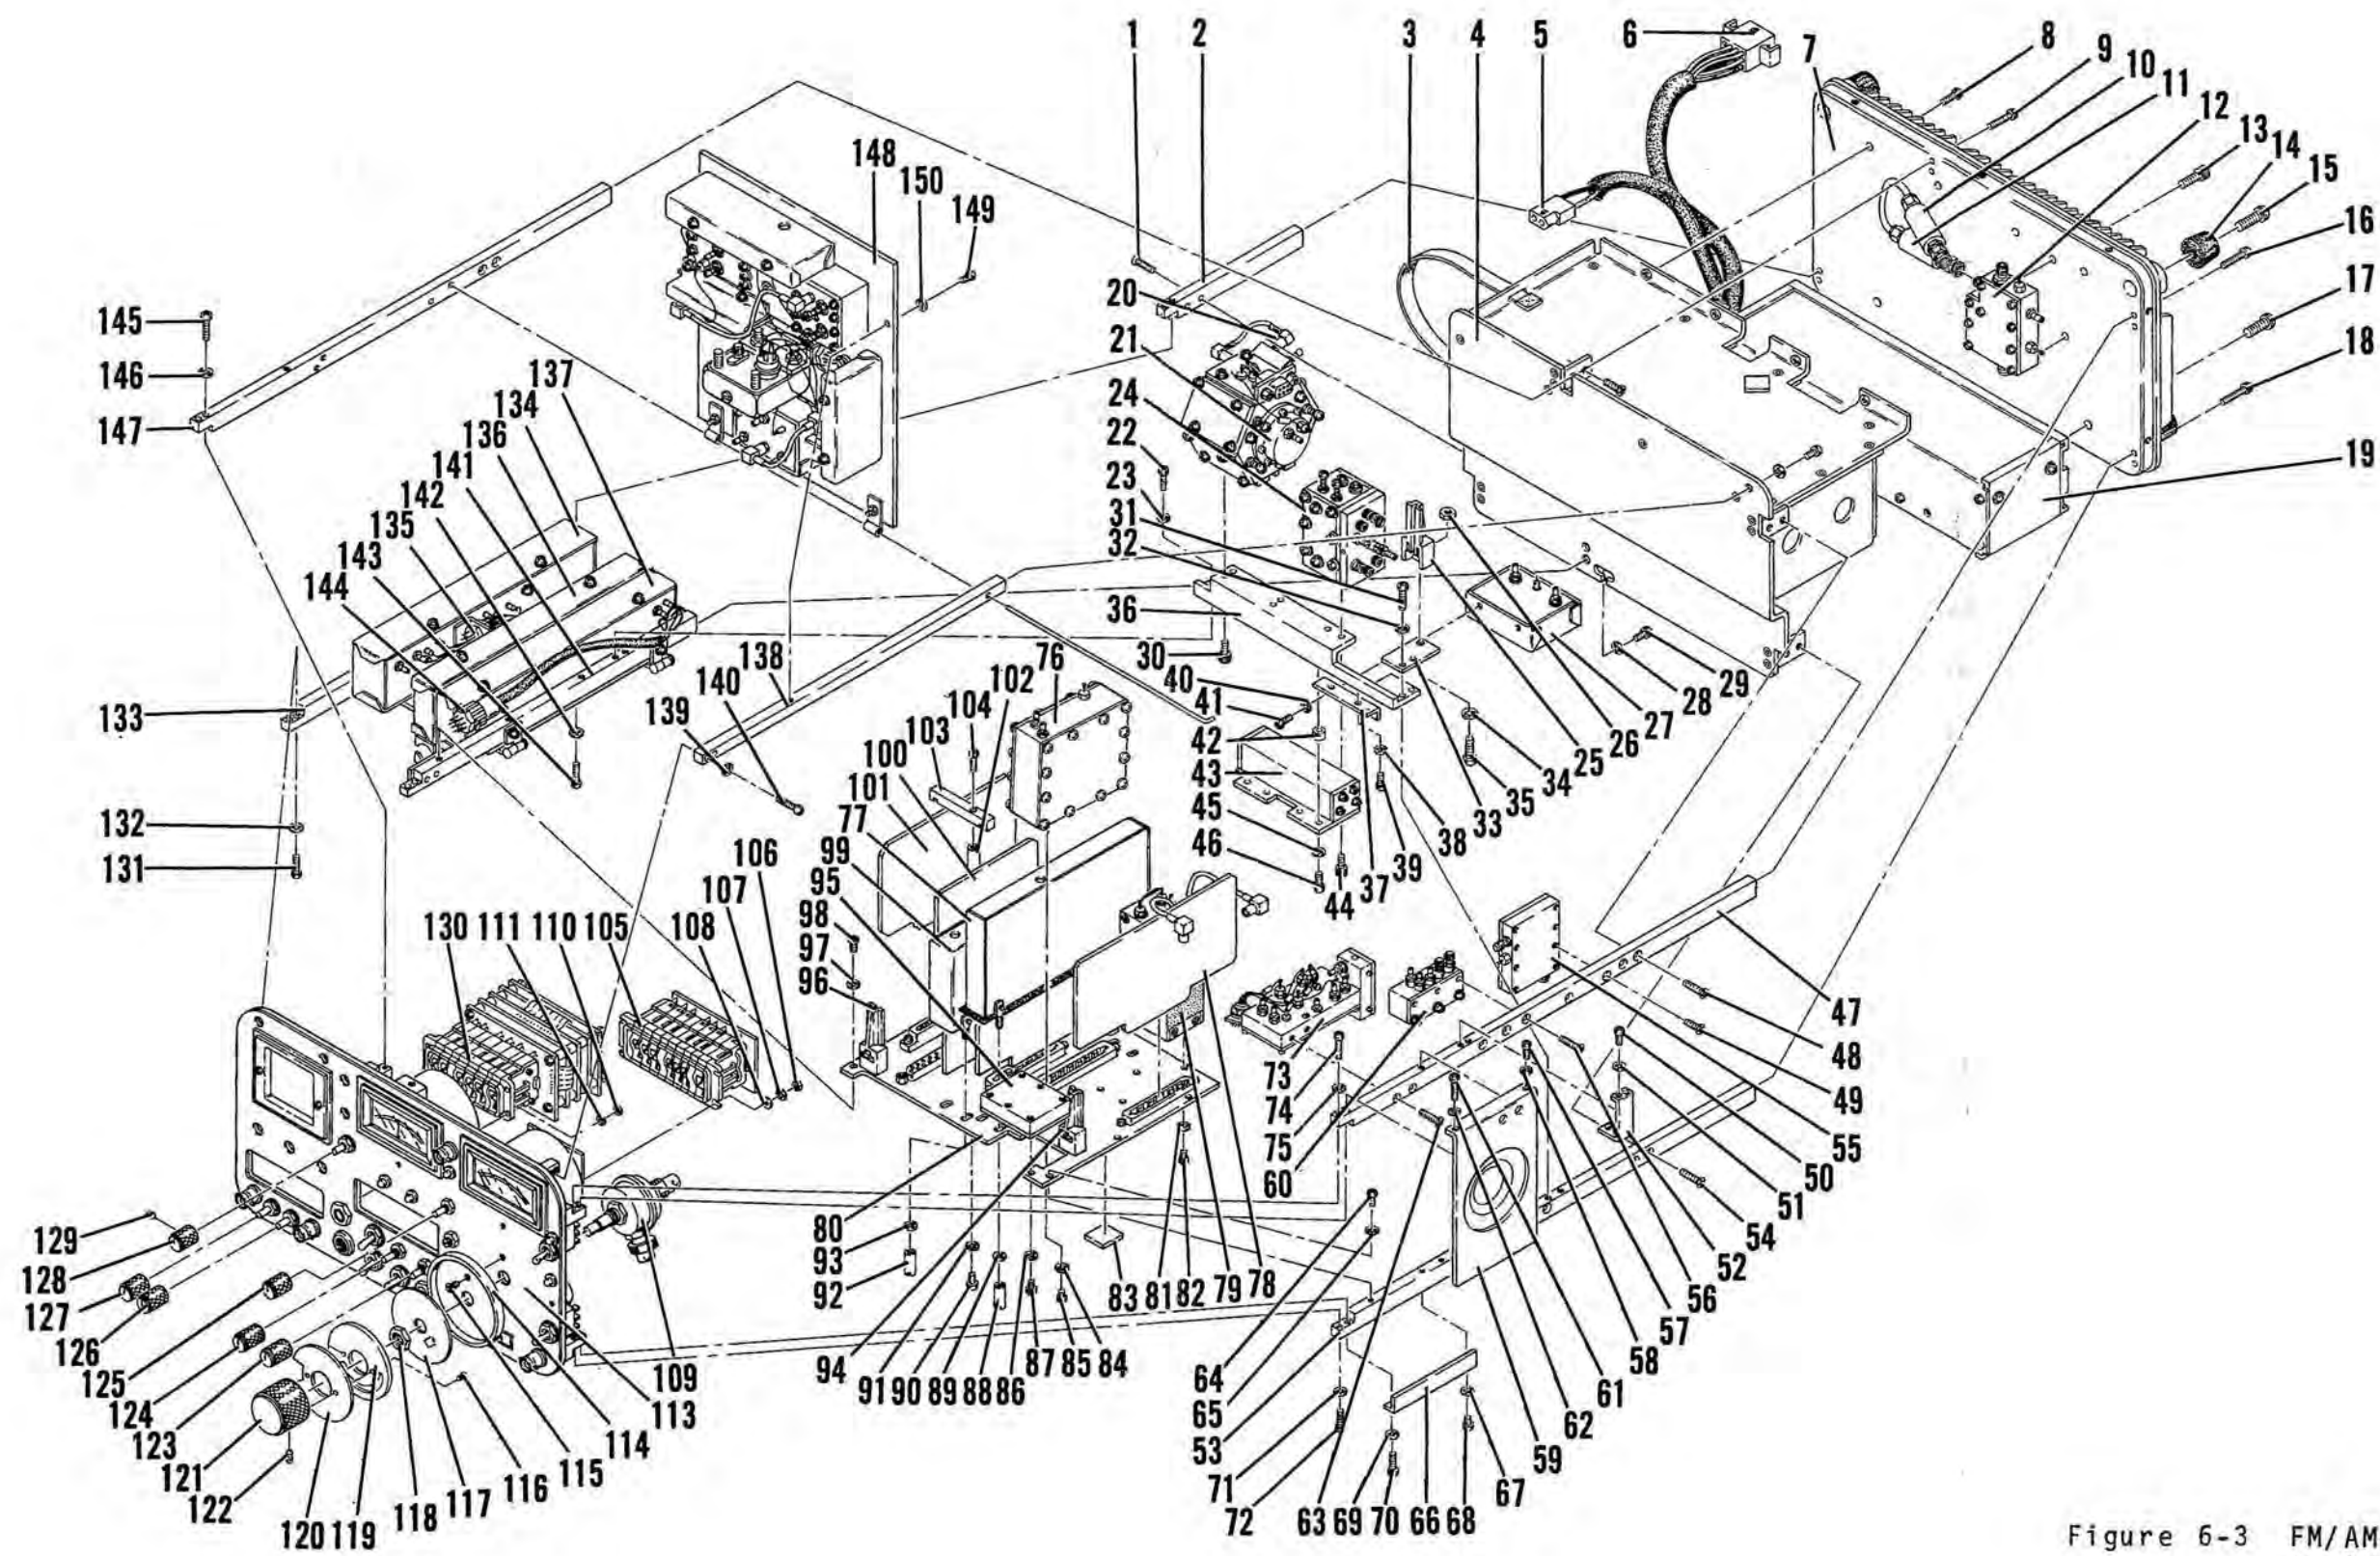

Figure 6-3 FM/AM-1100S/A Composite Disassembly and Reassembly
- A. RAISE UPPER FLOOR ASSEMBLY (148) after removing two Phillips screws (149) and lock washers (150) which secure floor to two frame support members (138) and (147) (Fig. 6-3).
2. Disconnecting Molex connector (5) (Fig. 6-3).
- B. Remove POWER SUPPLY ASSEMBLY (19) (Fig. 6-3) from Rear Panel by removing:
1. Two Molex connectors (5) and (6).
2. Three Phillips screws (17).
- C. Remove REAR PANEL (7) (Fig. 6-3) by removing:
2. Remove three socket head screws (13) securing Power Termination Assembly (12) to Rear Panel.
- D. Remove POWER TERMINATION ASSEMBLY (12) (Fig. 6-3) by removing:
- E. Remove two 30 dB Pads (10) and (11) (Fig. 6-3) by disconnecting rigid coax at both ends of 30 dB pads.
6-1-7 REMOVAL OF MODULES FROM RIGHT-HAND SIDE (Fig. 6-3 & 6-4)
H. Remove 1200 MHz AMPLIFIER (55) by removing:
2. Two Phillips screws (49) which secure 1200 MHz Amplifier to frame support.
6-1-8 MOTHER BOARD (80) MODULE REMOVALS (Fig. 6-3 & 6-4)
ITEM NUMBERS CORRESPOND WITH ITEMS IN FIGURE 6-3.
6-1-9 MOTHER BOARD CONNECTORS (Fig. 6-3 & 6-5)
A. Remove MOTHER BOARD (80) (Fig. 6-3) by removing:
1. Two ribbon cable connectors (P6401 and P6402) to Frequency Select Switch (105) (Fig. 6-3).
2. Molex connector (P8103) to Power Supply (19) (Fig. 6-3).
3. Coax connector (P5702) to 120 MHz Receiver (137) (Fig. 6-3).
4. Connector (P6204) to High Frequency Multiplier/Mixer Block (21) (Fig. 6-3) (unscrew two screws holding connectors together).
8. Six Phillips screws (64 and 98) and six lock washers (65 and 97) securing Mother Board to frame (Fig. 6-3).